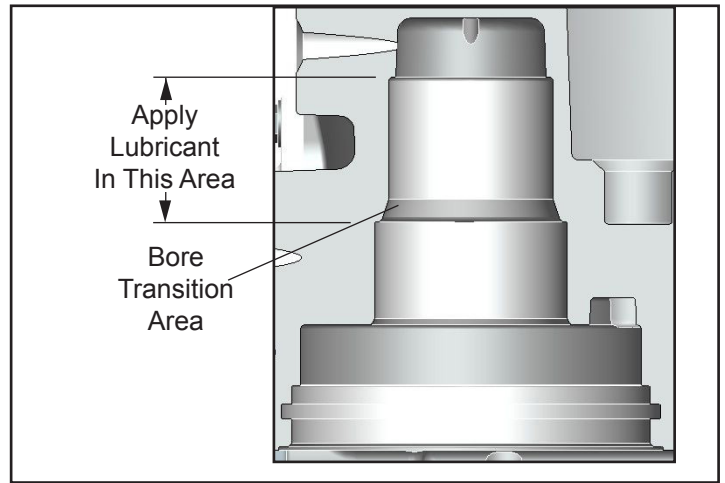

Figure 4 – Purge Valve Bore Transition Area
2. Lubricate the air dryer bore for the purge valve assembly. Apply a liberal amount of lubricant (approximately 1/2 of the tube (6) provided) to the bore transition area. Refer to Figure 4.